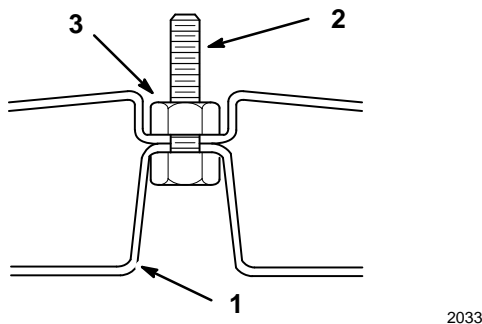

Figure 4
1. Remove backing paper and apply decal to left side of mower (Fig. 4). Smooth from center to edges to remove air bubbles.
1. Place (4) 5/16"–18 x 1 1/4 bolts into the deep recessed holes in the left and right baffles. Secure the bolts with (4) 5/16" locknuts in the shallow recesses. Refer to Figures 4 and 5 for correct assembly and hole usage.